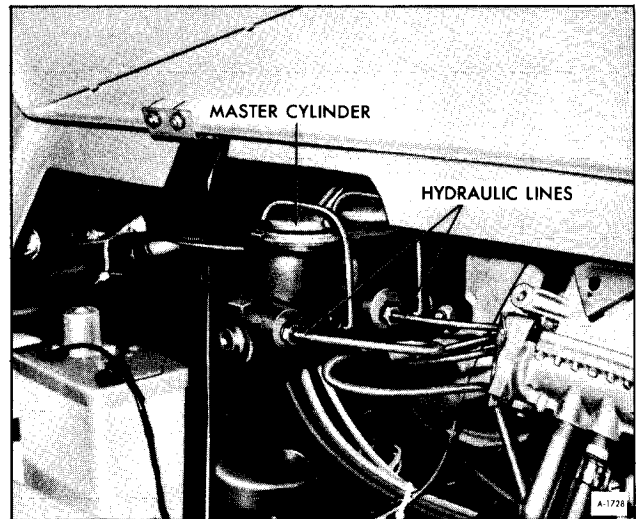

Figure 14—Hydraulic Lines at Master Cylinder
1. Be sure area around master cylinder is clean, then disconnect the hydraulic lines at the master cylinder (Refer to figure 14). Plug or tape ends of lines to prevent entrance of dirt or loss of brake fluid.